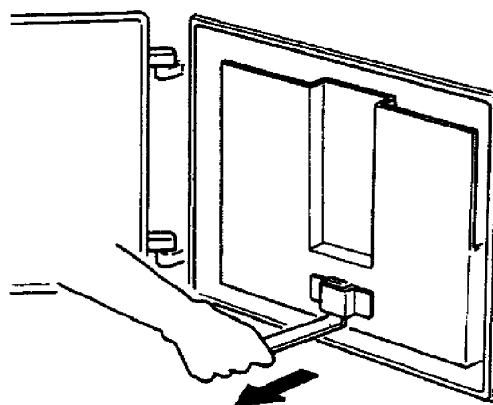

Fig. 8
- Remove ashpan, empty and replace (Fig. 8).
- Remove ashpan, and empty (Fig. 8).
- With the fire established, open the firebox door and fill firebox with fuel. Check secondary air slide setting (Fig. 8). **Close and lock the firebox door.** Push the flue chamber damper back to position which has been found to give best results. Set spinwheel to give desired burning rate.
Open the ashpit door to give access to the ashpan which must be emptied regularly (See Fig. 8). In winter, this may be more than three times daily depending on weather severity. The class of fuel and cooker usage govern the frequency of refuelling.